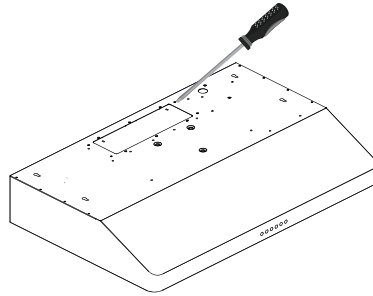

Figure 4
- Depending on the exterior venting option chosen (see page 10), pop out the steel panel on either the top or rear of the range hood (see figure 4).